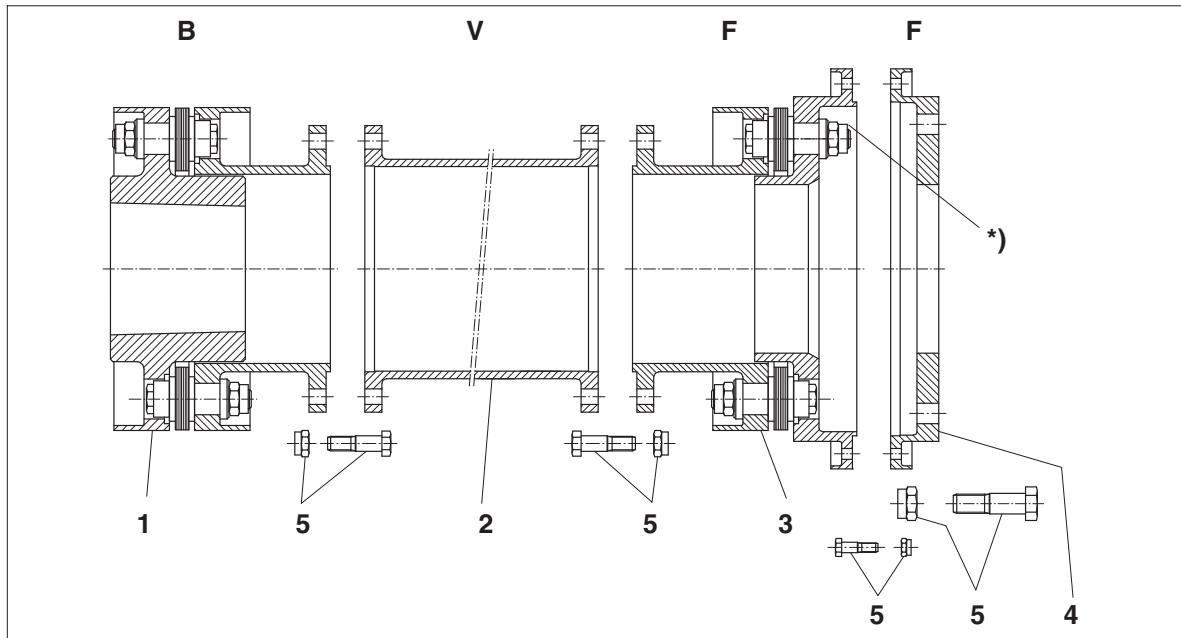

Fig. 10: Special type **BVFF**
By exchanging individual coupling components and coupling modules, additional types can be generated on the basis of the standard types (see item 5.2.1). As an example three special types, **BVFF**, **MWF** and **MFB**, are shown in this section (see figs. 10 to 12).